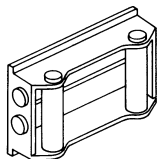

Figure 18
- EQUIPPING THE WINCH WITH A ROLLER FAIRLEAD** will substantially reduce wear on the wire rope during angle pulls (Figure 18). The rollers eliminate heavy rubbing and abrasion to the wire rope.